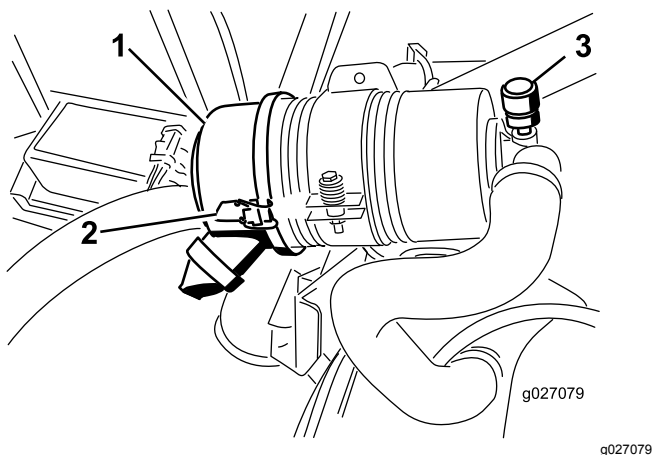

Figure 49
Service the air-cleaner filter only when the service indicator requires it (Figure 49). Changing the air filter before it is necessary only increases the chance of dirt entering the engine when you remove the filter.
2. Release the latches securing the air-cleaner cover to the air-cleaner body (Figure 49).